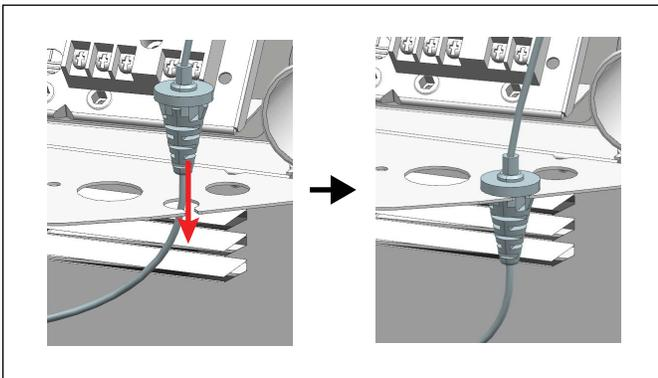

Figure 12
13. Run the antenna cable through the middle hole as shown below and push down on the cable strainer until it snaps into place (Refer to Figure 12).